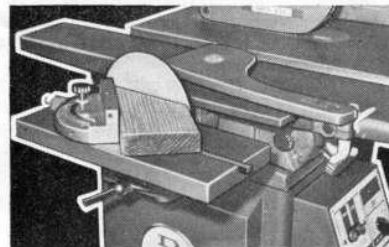

Figure 17
#### DISC SANDING (Figs. 17, B)
1. Fit the Borer-Sander unit to the "Pacemaker" as shown in (Fig. 17).